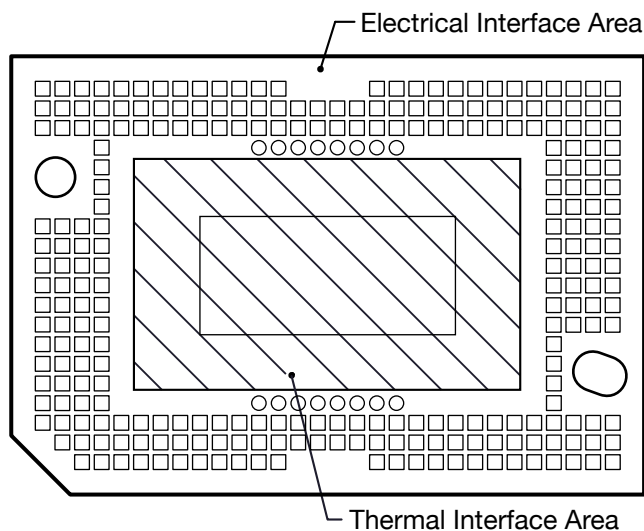

图 6-8. System Mounting Interface Loads
(1) Apply the load uniformly in the corresponding areas shown in 图 6-8.